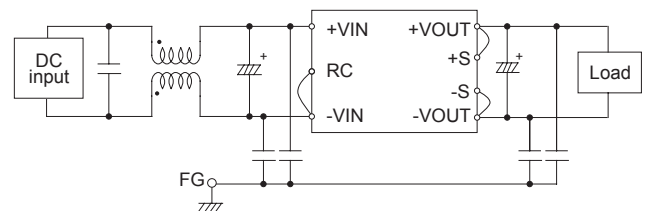

Fig.3.1 Recommended external input filter
(3) Recommendation for noise-filter
■ Install an external input filter as shown in Fig.3.1 in order to reduce conducted noise. For details refer to our website technical data.